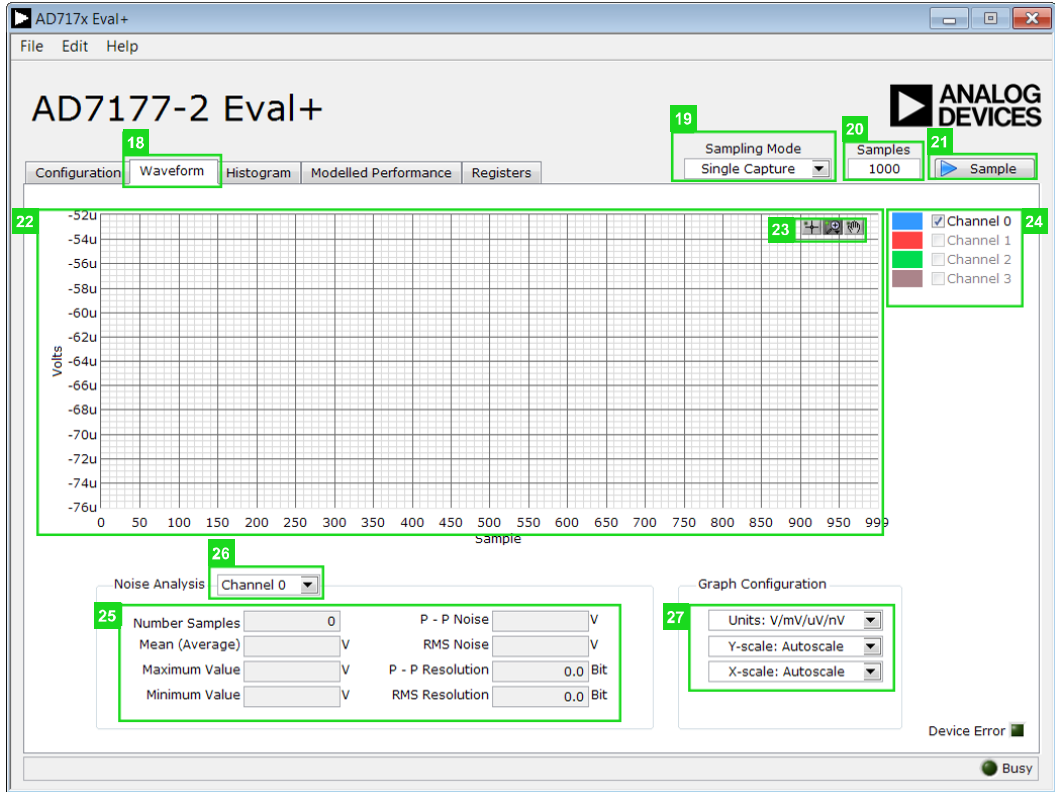

Figure 18. **Waveform** Tab of the AD717x Eval+ Software
Figure 18 shows the **Waveform** tab (18) of the AD717x Eval+ Software.